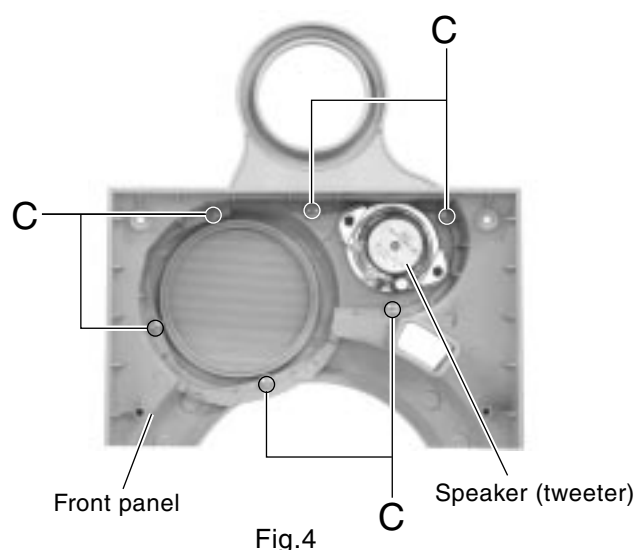

Fig.4
■ Removing the sub panel (See Fig.4)